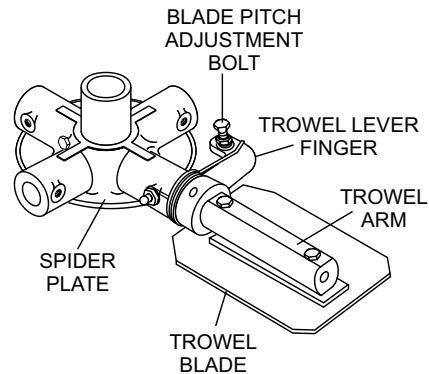

**Figure 47. Cleaning The Spark Arrester**
4. Carefully remove carbon deposits from the spark arrester screen (Figure 47) with a wire brush.